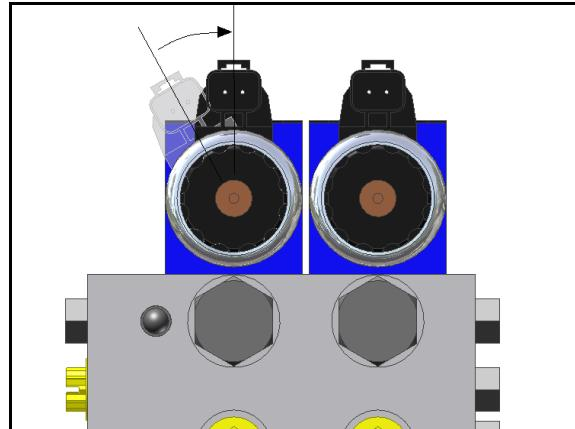

Figure 21: Align Coils
2. Verify the valve coil connectors are oriented vertically (**Figure 21**).